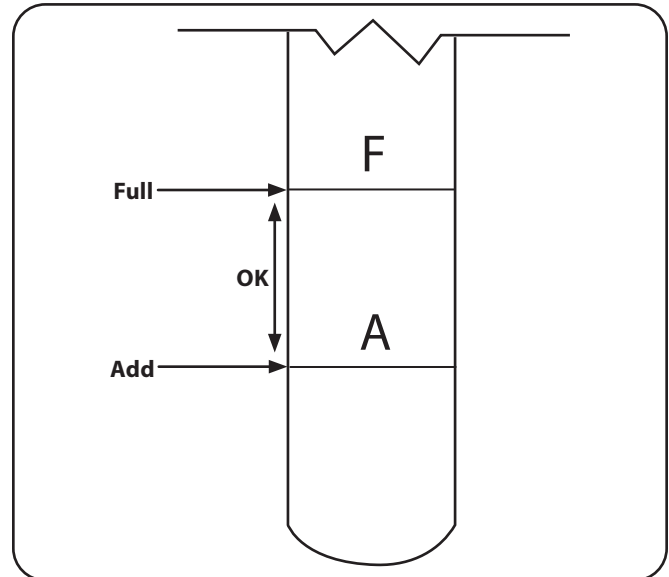

Figure 6-6
1. Remove the dipstick and check the level. See Figure 6-6.
7. Remove the oil fill plug/dipstick from the oil fill port and SLOWLY pour oil into the oil fill port. Fill the transmission case until the oil level reaches the “FULL” mark on the dipstick. Refer to Figure 6-6.